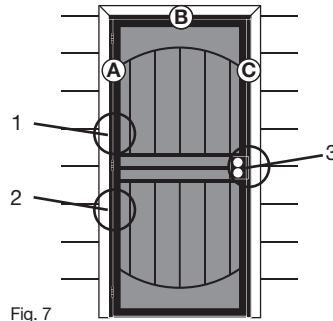

Fig. 7
Fig. 7 - Place the door into the opening making sure it is level and plumb. With the door in place, drill a 1/8" hole approximately 1/2" deep through each of the pre-drilled holes in the Z-bar jambs (A & C) and into the doorway trim. Starting with holes (1-3), insert mounting screws (K) and tighten.